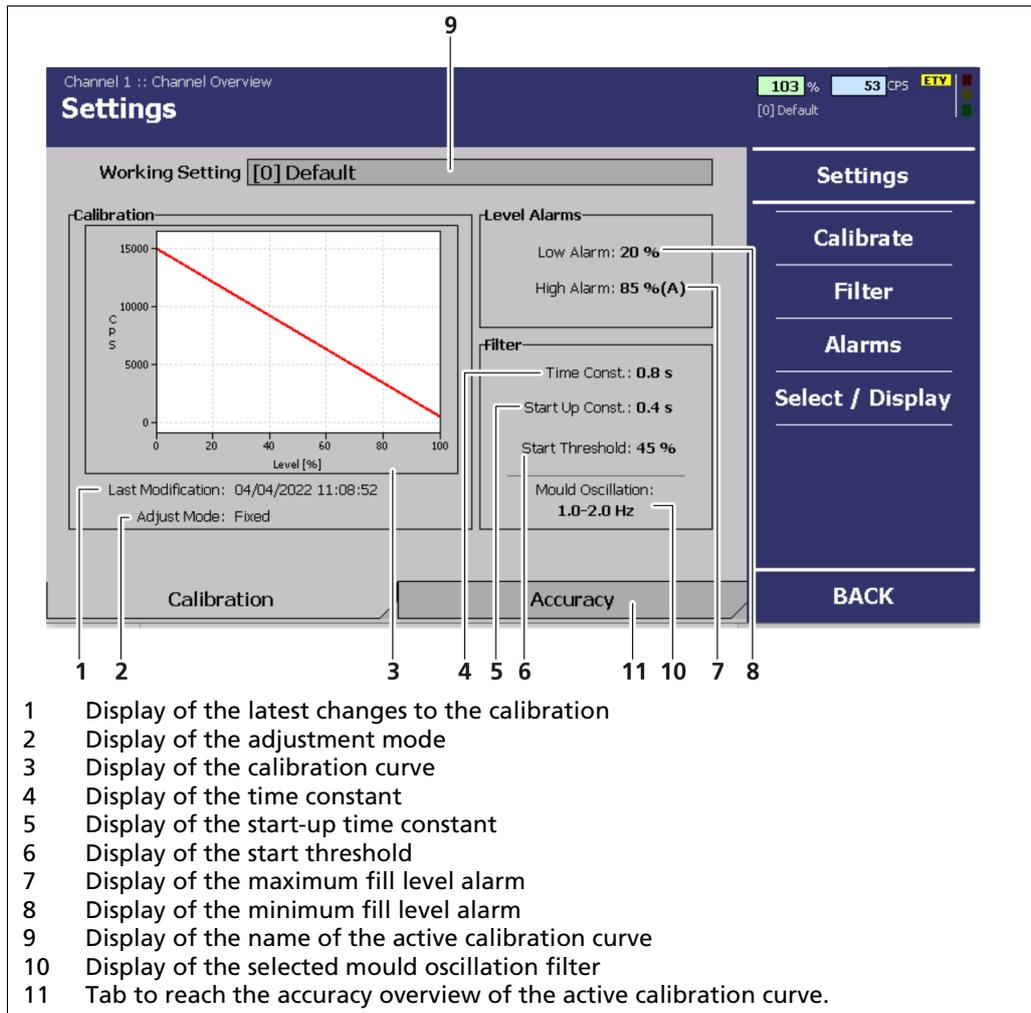

Fig. 54 "Channel Overview" Menu, Settings
Active Settings	Display of the selected calibration curve and settings (Fig. 54, Item 9)
Calibration	Display of adjustment mode (Fig. 54, Item 1) Display of the latest change to the calibration settings (Fig. 54, Item 2) Display of the calibration curve (Fig. 54, Item 3)
Fill level alarm	Fill level alarm display (Min.) (Fig. 54, Item 8) Fill level alarm display (Max.) (Fig. 54, Item 7)
Filter	Display of the time constant (Fig. 54, Item 4) Display of the start-up time constant (Fig. 54, Item 5) Display of the start-up threshold (Fig. 54, Item 6) Display of the applied mould oscillation filter (Fig. 54, Item 10)
In the "Channel Overview" menu, click on Settings | Calibration (Fig. 54) to reach the "Calibration" submenu.
1. In the "Channel Overview" menu click on Settings | Calibration (Fig. 54).
1. Click in the "Channel Overview" menu | Settings | Calibration (Fig. 54, Item 2).
In the "Channel Overview" menu, click on Settings | Filter (Fig. 54, Item 4).
In the "Channel Overview" menu, click on Settings | Filter and then Oscillation Filter (Fig. 54, Item 4) to reach the Oscillation Filter menu.
In the "Channel Overview" menu click on **Settings | Alarms** (Fig. 54).